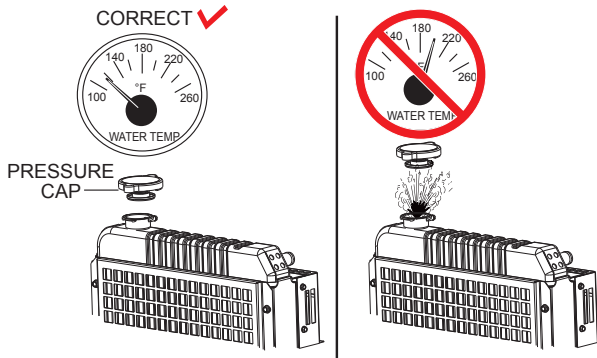

Figure 46. Radiator Pressure Cap Removal
1. Remove the radiator pressure cap (Figure 46) only if the coolant temperature is below 120°F (50°C).